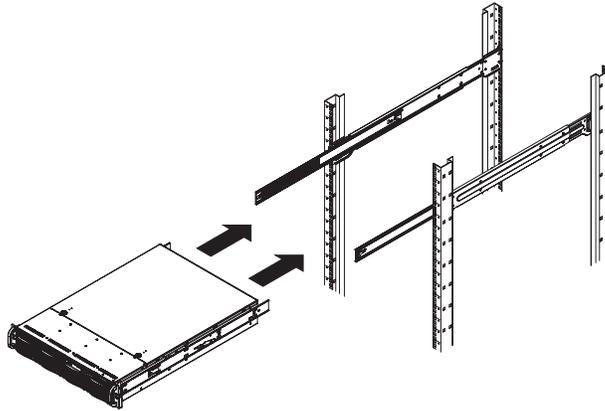

Figure 3-5 Installing the Server in a Rack
You should now have rails attached to both the server chassis and the rack unit. The next step is to install the server into the rack (refer to Figure 3-5).
1. Extend the outer rails as shown in Figure 3-5.